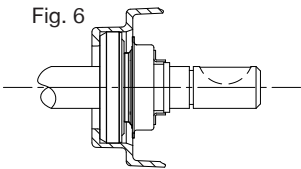

Fig. 6
2. Now use End 2 of the applicator tool to push the rotary section of the seal assembly (item B) onto the motor shaft until it is flat against the seal counterface (Fig. 6). The shaft may be lubricated with clean water to assist assembly.